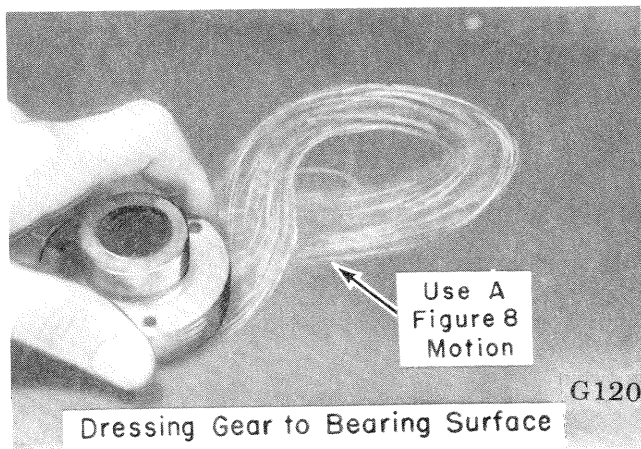
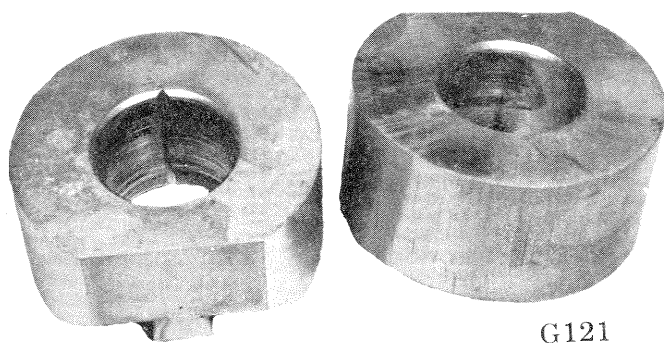

Figure 12
Figure 13
5. Examine bearings and body for scratches and pitting. Use fine sandpaper on a surface plate to dress out any slight imperfections of bearings. Do not attempt to remove deep scratches or gouges. Fig. 12 illustrates method of dressing the bearing. Check bearing bores for concentricity or smearing. Fig. 13. Place bearings in their respective positions in the body and check clearance between bearing flats, which